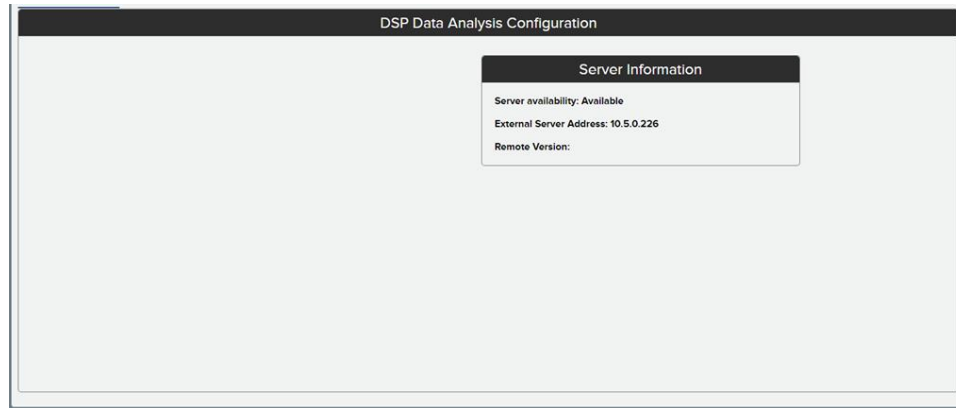

Figure 70: Auxiliary server configuration window after pairing
8. The server availability and address will be displayed (see Figure 70). If this information does not appear, refresh the screen (Ctrl + R).